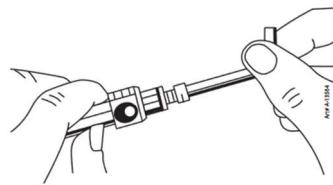

Figure 9: Unclog Orifice
2. Remove the filter from the tip(s) using an 1/8" (0.3 cm) hex wrench as below figure 9.